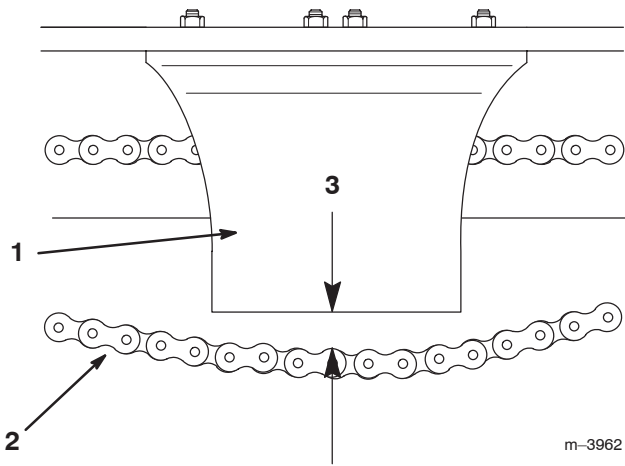

Figure 19
- Measure the distance between the bottom of the chain guard and the lower chain span (Fig. 19). If the slack in the chain is not within 1–1/2 to 2–1/2 inches (3.8 to 6.35 cm), adjust the tension (refer to Adjusting the Tension).
6. Adjust the chain tensioning bolt until the distance between the bottom of the chain guard and the lower chain span is within 1-1/2 to 2-1/2 inches (3.8 to 6.35 cm) (Fig. 19).